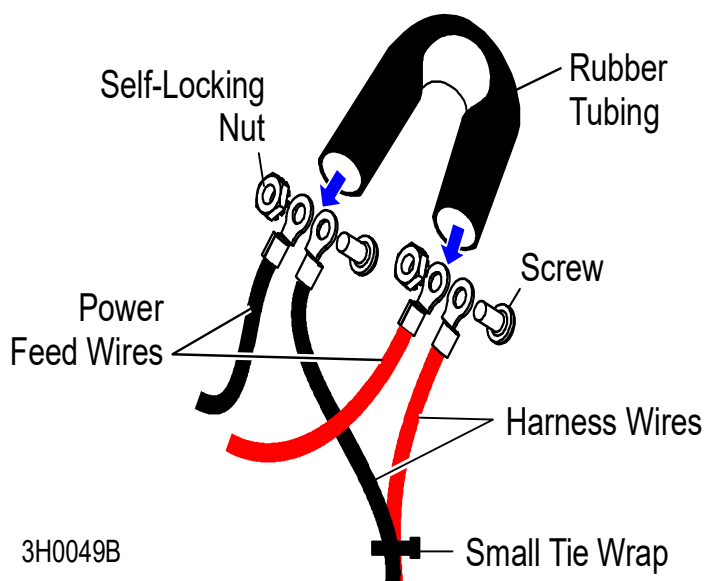

FIG. 1-14
See Figure 1-14. To connect, bundle the two harness wires together with the small tie wrap. Connect the blue power feed wire to the blue harness wire with a screw and a self-locking nut. Connect the green power feed wire to the green harness wire with a screw and a self-locking nut. Slip one end of the neoprene tube around each wire/harness connection. Secure the tubing around the connections with the large tie wrap.
5. Install the long harness through the control box grommet. Use the small tie wrap to bundle the two harness wires together as shown. Connect the blue and green power feed wires to the respective blue and green harness wires with the screw and self-locking nut provided. Slip the supplied neoprene tube around both wire/harness connections as shown. **See Figure 1-14.** Keeping the tubing folded tight, use a large tie wrap to secure the bundled connection to the yellow, red and brown wire harness in the control box. Tuck the excess length of wires into the left front corner of the control box and replace the control box cover.